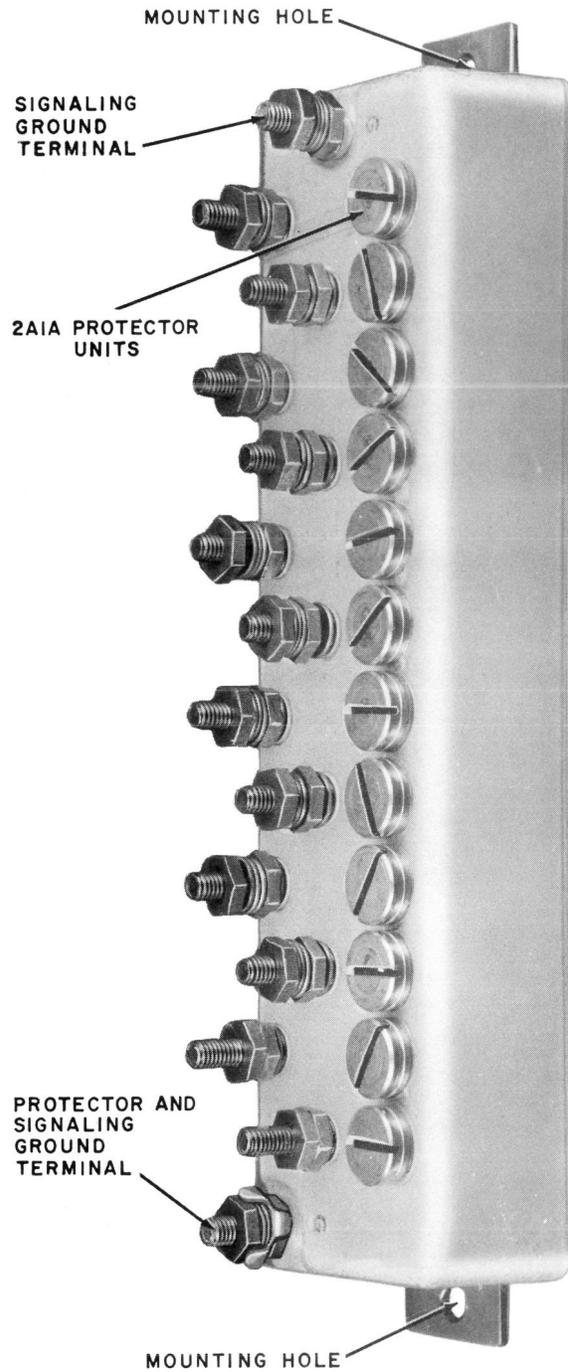

Fig. 14—117B Protector
3.16 The **117B protector** (Fig. 14) consists of a nonconductive base containing twelve binding posts, twelve 2A1A protector units, one binding post for signaling ground, and one binding post (equipped with a pronged washer) for signaling ground and protector ground. The 117B protector should be grounded with a wire no smaller than a No. 10 ground wire (Table B). The 117B protector is designed for indoor use and generally used with 6-pair multiple drop wire.